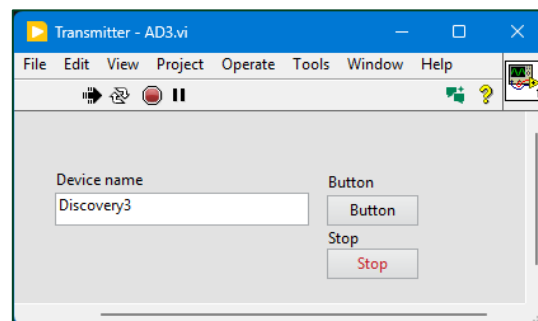

Figure 8. Transmitter VI Front Panel
- 2.3. Modify the front panel shown in **Figure 8**. Inside **Device name** String Control write your corresponding **Device** name from **Table 2**.